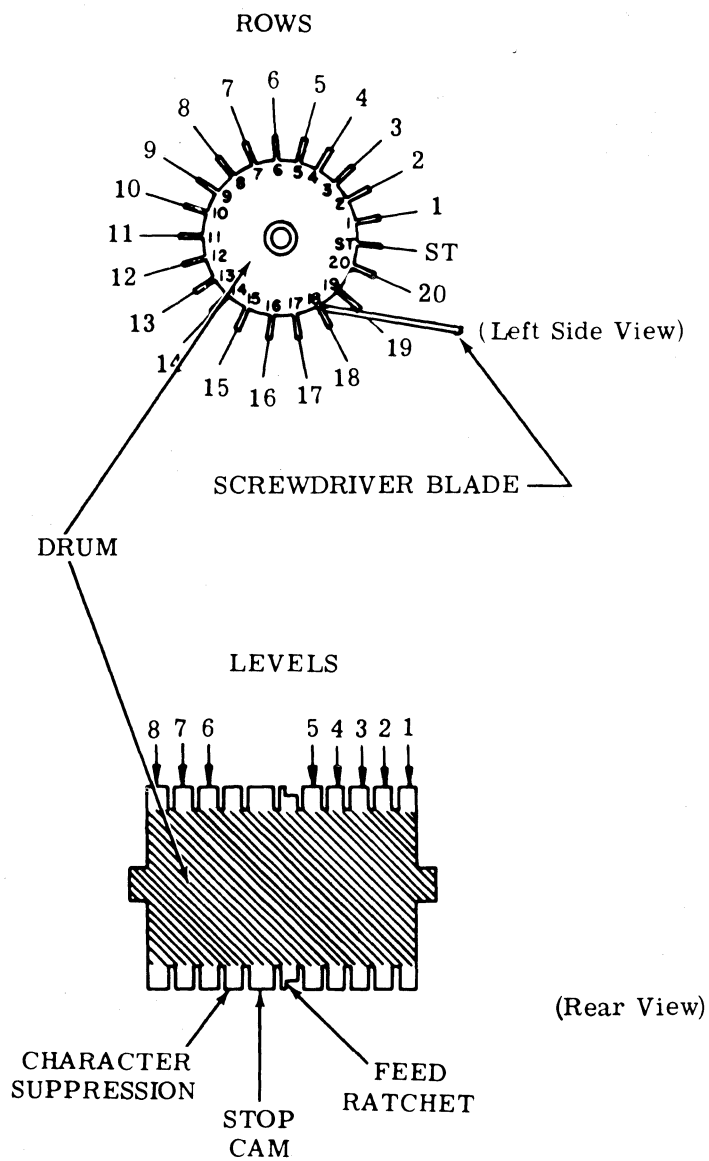

Figure 5 - Answer-Back Drum
2.06 Code the answer-back drum in a counter-clockwise direction (Figures 5 and 6), starting with row no. 1.
2.07 A particular character is coded by either retaining or removing tines within a row, as illustrated in Figure 5. A tine may be removed by either of the two following methods:
blade against the top of the unwanted tine until the tine breaks off. Figure 5 illustrates this method — pressure applied to base of row no. 18 and against top of adjacent tine being removed from row no. 19.